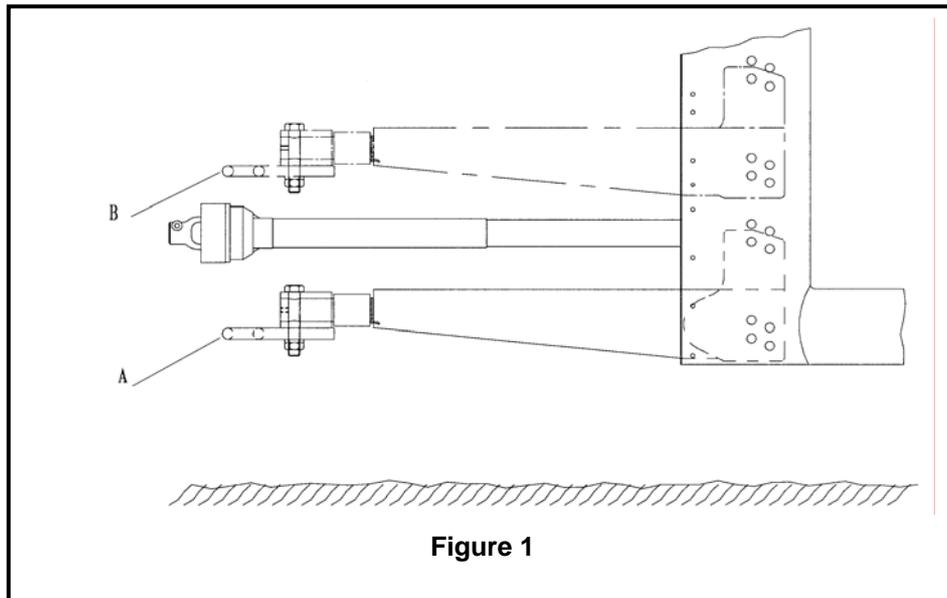

Figure 1
1. The 600 series diet feeders are supplied with the drawbar in either the **LOW (A)** or in the **HIGH (B)** position as shown in figure 1 and can be used with any of the following tractor hitches: